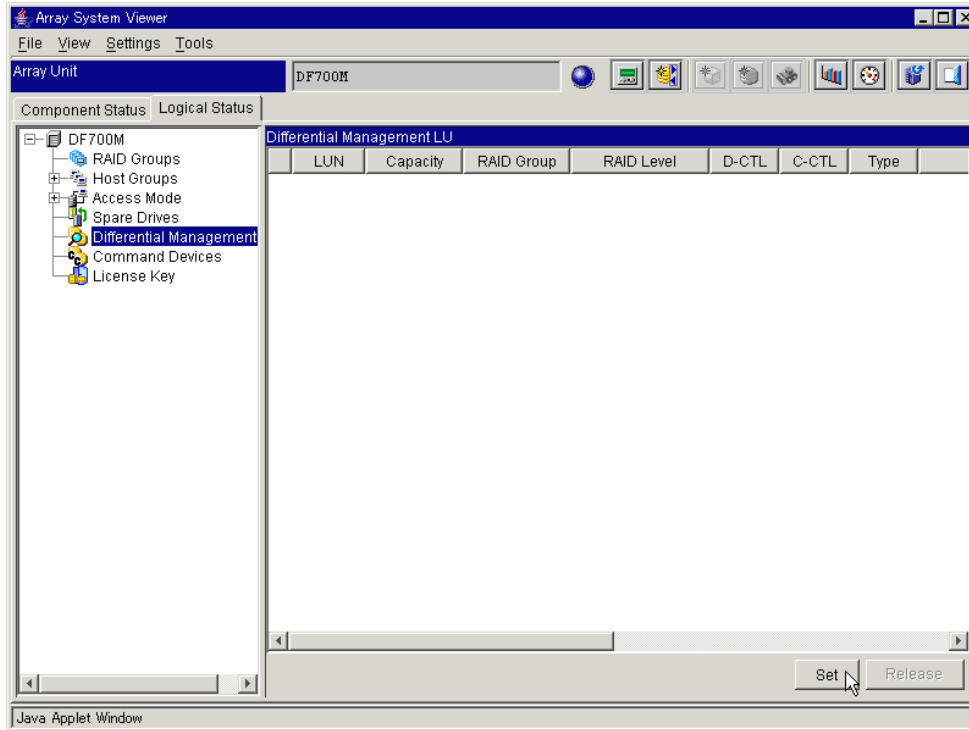

Figure 6.9 Array System Viewer - Differential Management
1. Click the **Logical Status** tab on the **Array Unit** screen. See Figure 6.9.